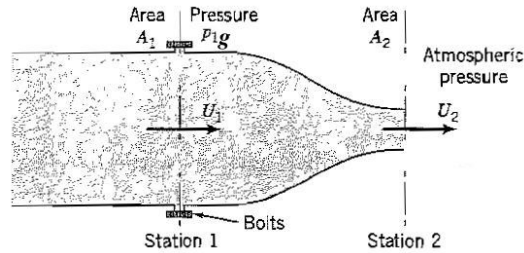

Figure P4.19
4.19 A one-dimensional air flow of constant density ρ exits steadily into the ambient atmosphere from the contraction shown in Figure P4.19. The contraction is bolted onto a constant area duct at station 1, and the area ratio $A_1/A_2 = 4$. If the total force in the bolts is F_x , find $F_x/\rho U_1^2 A_1$. Show all your work, and state your assumptions clearly. Would your analysis hold if the flow direction was reversed?